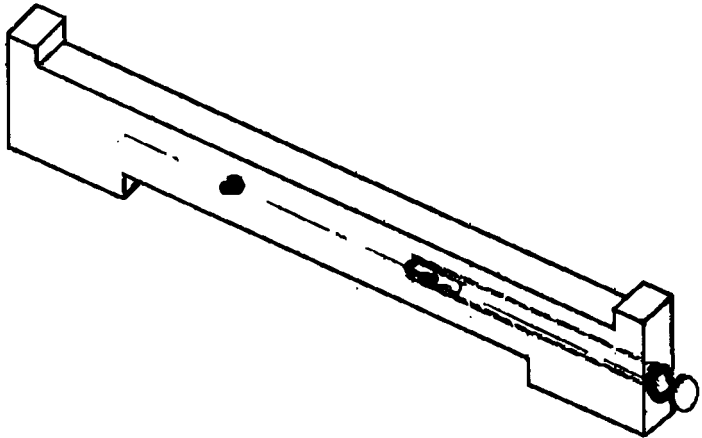

Fig. 2. Comb holder.
3. To attach the desired comb to the comb holder (Figure 2), place the comb over the two metal pins (A and B), and turn the screw (C) clockwise. This causes one pin to move toward the screw, holding the comb in place. Adjust the height of the comb to 2 mm above the surface of the platform by loosening the screw (counterclockwise), then tightening when the comb is properly positioned. A thin plastic ruler makes a good height gauge. **Note:** For 14 cm wide gels (standard casting stand, and long option of combination casting stand), the comb holder should be positioned as shown in Figure 2. For 21 cm wide gels (wide option of combination casting stand), the comb holder should be inverted.